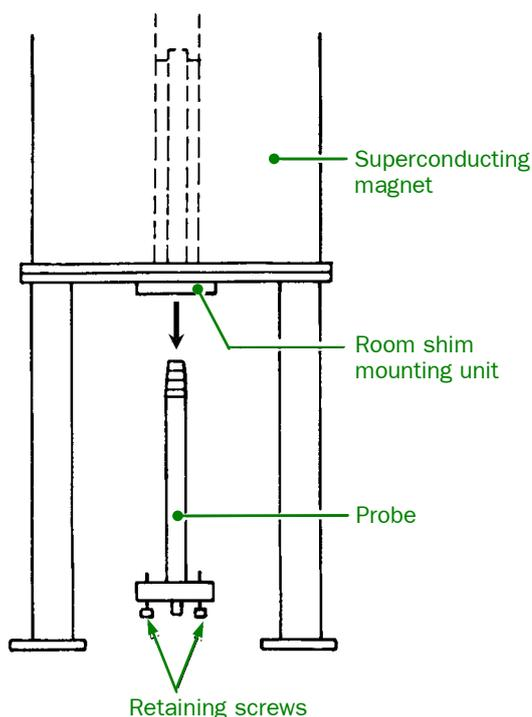

Fig. 7 Removing the Auto tune 5 mm FG/TH Tunable Probe
- ✎ As shown in Fig. 7, loosen the retaining screws of the probe and pull the probe straight down. Then, take out the probe when the probe top has come out of the superconducting magnet.